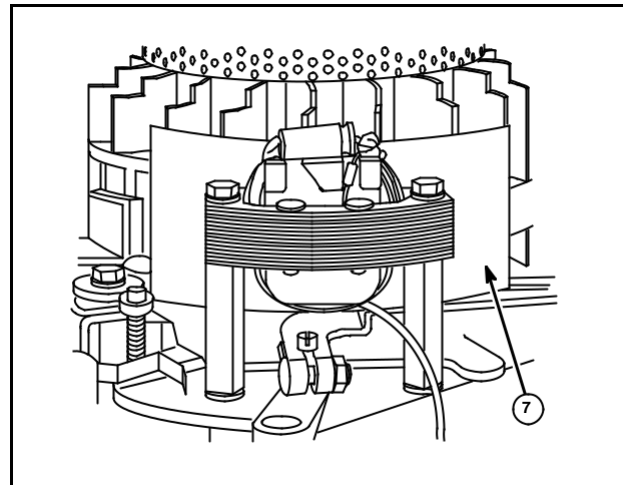

Fig. 21
3. Place a .006" (.17 mm) or .010" (.25 mm) thick gauge (7), depending on application, between stator and flywheel.
6. Turn flywheel to remove gauge, Fig. 21.